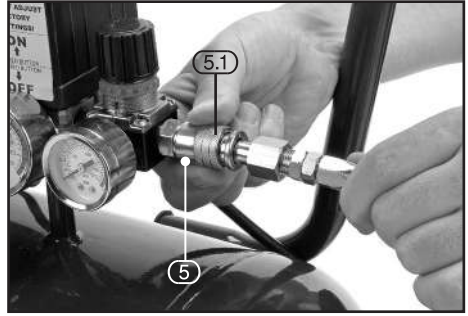

FIG.4
9.1 BASIC COMPRESSOR OPERATION – FIGS.4 – 5
- Connect the air line to the compressor by pulling back the collar (5.1) on the air outlet quick coupling (5) and inserting the corresponding air coupling fitted on the air line. Release the collar so it slides back in place to secure the air coupling.
- Turn the air regulator (4) clockwise to its lowest setting and turn on the compressor by lifting the pressure switch On/Off button (3) upwards.
- Once the compressor has reached maximum pressure, open the regulator valve (4) to the desired pressure on the air outlet regulator gauge (8).